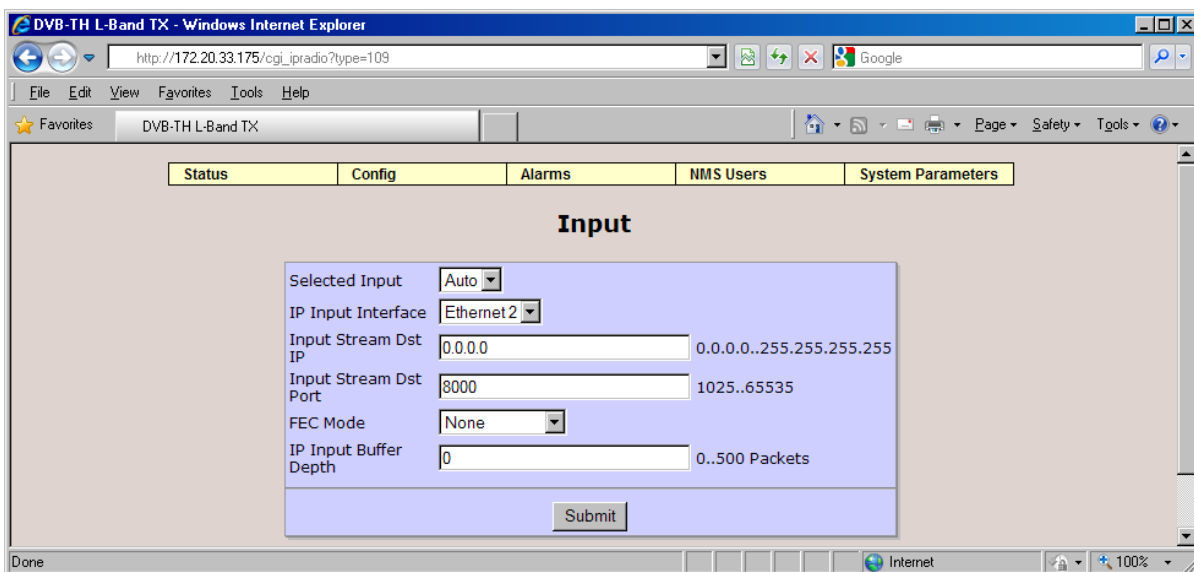

Figure 5-3 Input Configuration
1. Navigate to Config -> Input to configure the DVB-ASI or GbE (IP) input settings – see Figure 5-3.